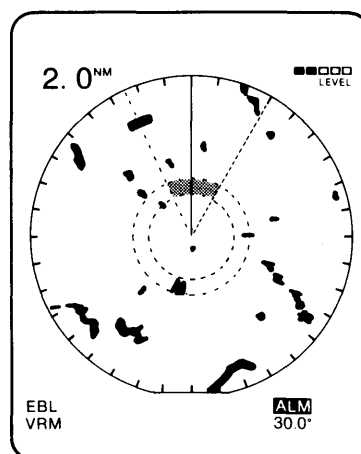

Fig. 2
- 5) Push [ALARM], then rotate the multi-function selector clockwise to set the right side of the alarm zone. (Fig. 2)